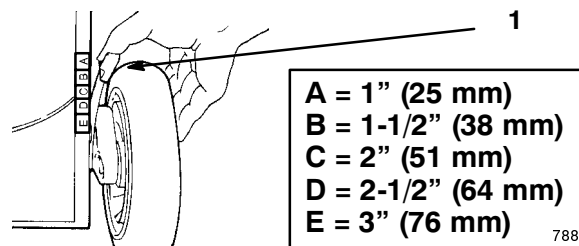

Figure 14
1. To change the cutting height, pull the adjusting lever toward the wheel and move it to the desired position (Fig. 14).